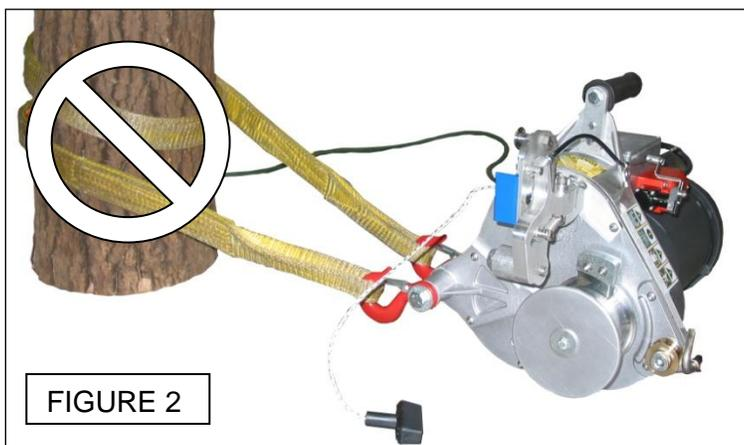

FIGURE 2
**⚠ PRECAUTION** **À NE PAS FAIRE !** LORSQUE VOUS ANCREZ LE TREUIL, ASSUREZ-VOUS DE **NE PAS FAIRE UN TOUR COMPLET AUTOUR DU POINT D'ANCRAGE** (FIGURE 2, PAGE PRÉCÉDENTE). CETTE FAÇON DE FAIRE EMPÊCHERA LE TREUIL DE S'ALIGNER CORRECTEMENT AVEC LA CHARGE. CELA AURA AUSSI POUR EFFET D'APPLIQUER UNE TENSION INÉGALE SUR CHACUN DES DEUX CROCHETS.